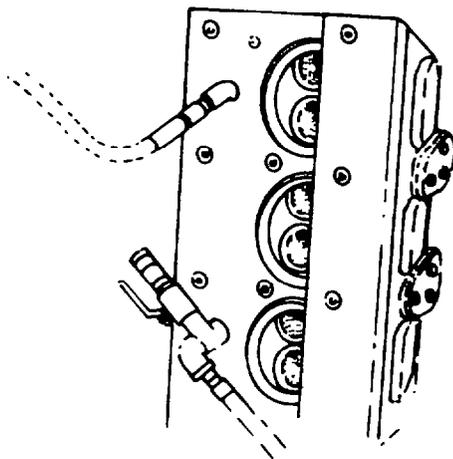

Fig. 6 — Pressure Testing Cylinder Head
- b. After the water and air lines are connected to the cover plate, fill the cavity from the water inlet line while the water outlet line is cracked open, allowing trapped air to escape. Make sure the entire cavity is full of water. Close the water outlet line and gradually add air pressure to 690 kPa (100 psi) (see fig. 6).